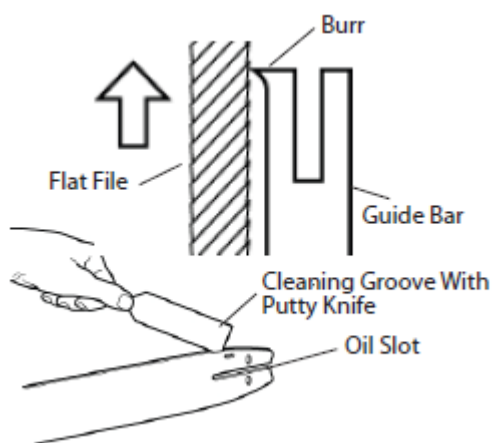

Fig.13
2. Remove sawdust from guide bar groove periodically. Use putty knife or wire (See Fig.13).